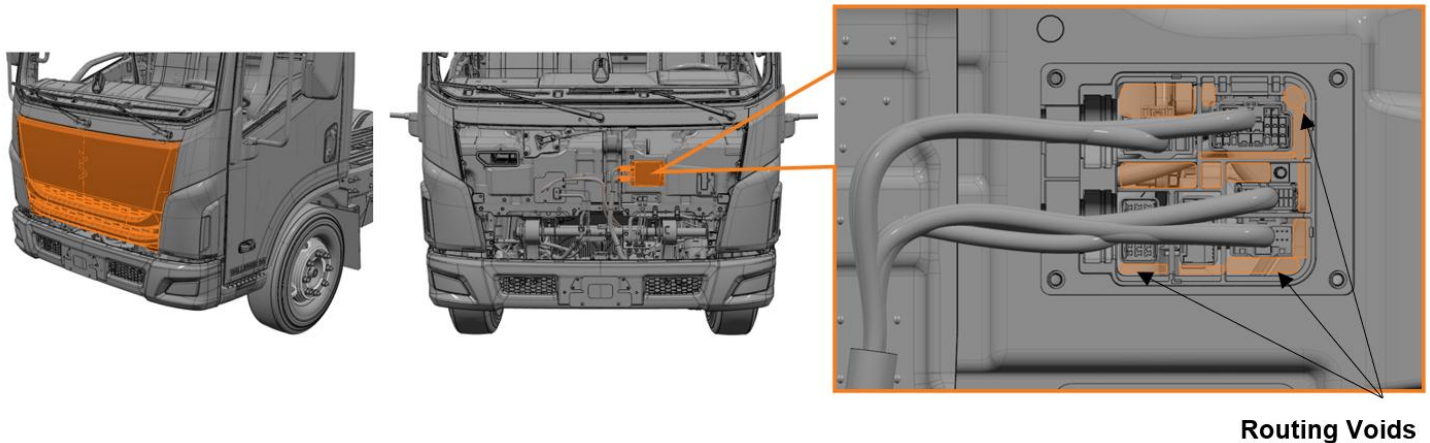

Figure 1
The front wall access exists under a protective cover on the chassis harness, where it connects to the cab, refer to Figure 1.
- Remove the grille and front decorative cover, refer to Figure 1.
- Remove the protective cover on the chassis harness by remove four fasteners then lift and remove the protective cover, refer to Figure 1.
- Route the additional Upfitter wires along the chassis harness and into one of the available routing voids between the connectors and cover base and through to the interior of the cab, refer to Figure 1.